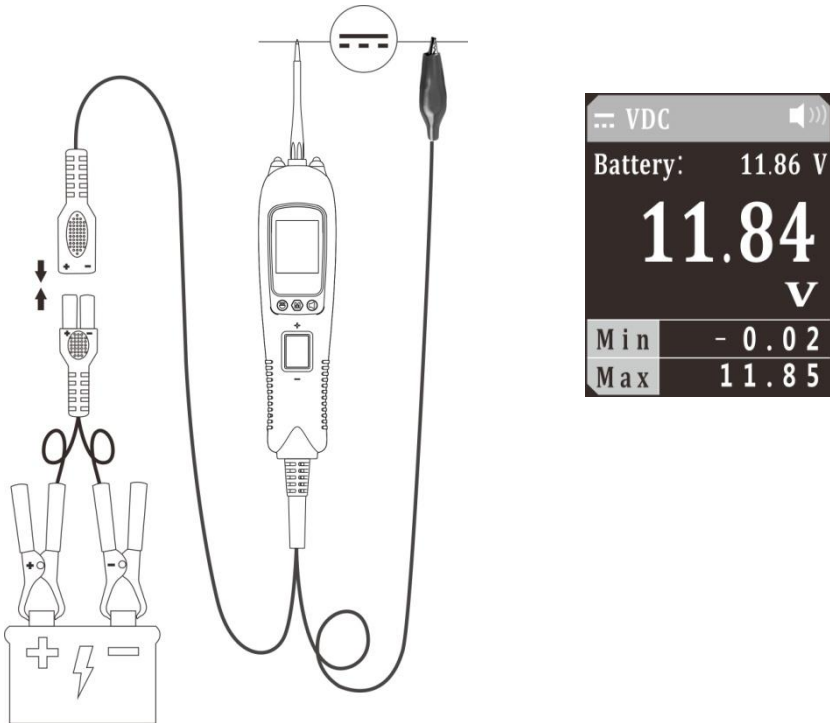

Figure 3
- 3) The LCD display will show the battery voltage and the real-time voltage, maximum and minimum values at the probe (Figure 3). The battery voltage reading will not be affected and its accuracy can be assured by the application of Kelvin test method, which avoids voltage drop usually caused by excessive length of instrument power cable.